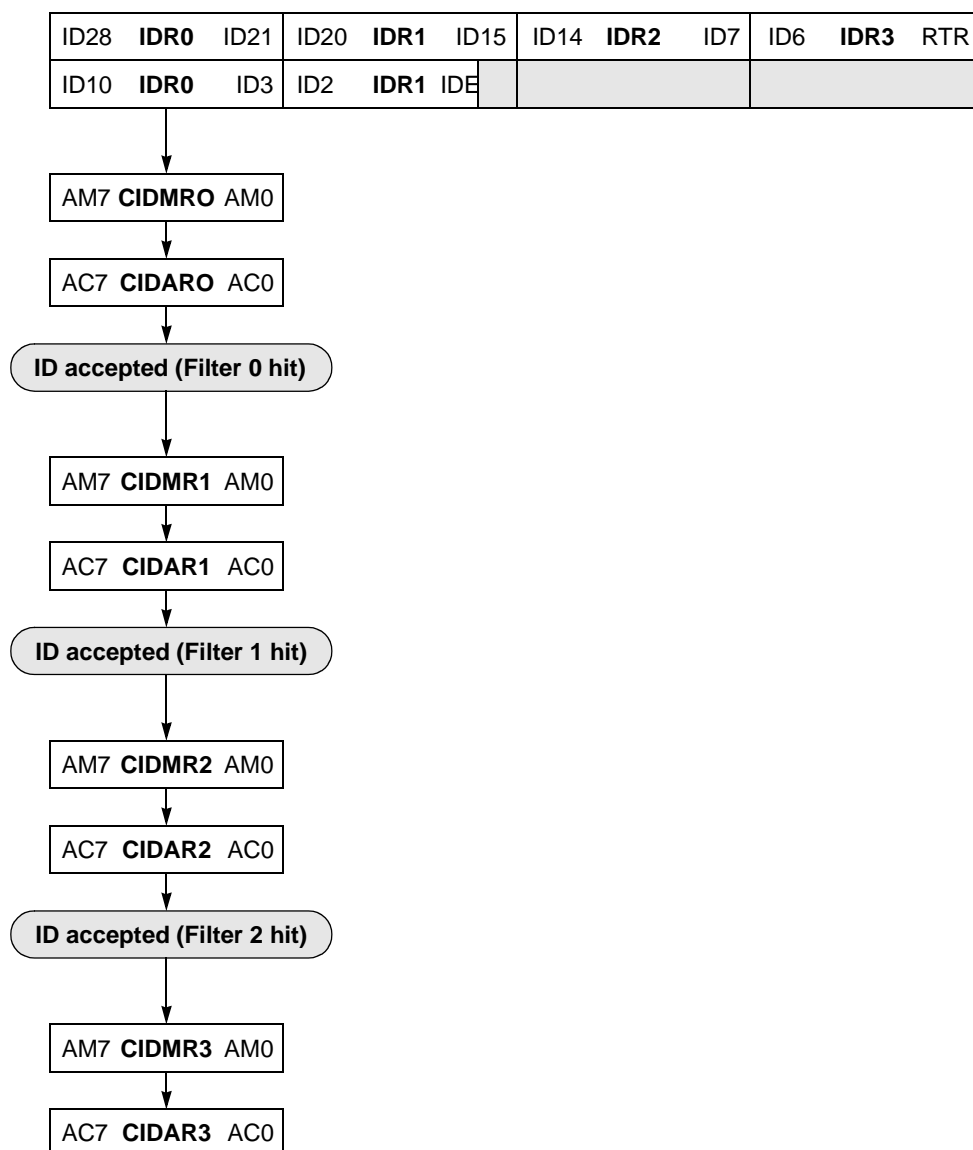

Figure 45 8-bit Maskable Acceptance Filters
- Eight identifier acceptance filters, each to be applied to the first 8 bits of the identifier. This mode implements eight independent filters for the first 8 bit of a CAN 2.0A compliant standard identifier or of a CAN 2.0B compliant extended identifier. Figure 45 shows how the first 32-bit filter bank (CIDAR0–3, CIDMR0–3) produces filter 0 to 3 hits. Similarly, the second filter bank (CIDAR4–7, CIDMR4–7) produces filter 4 to 7 hits.